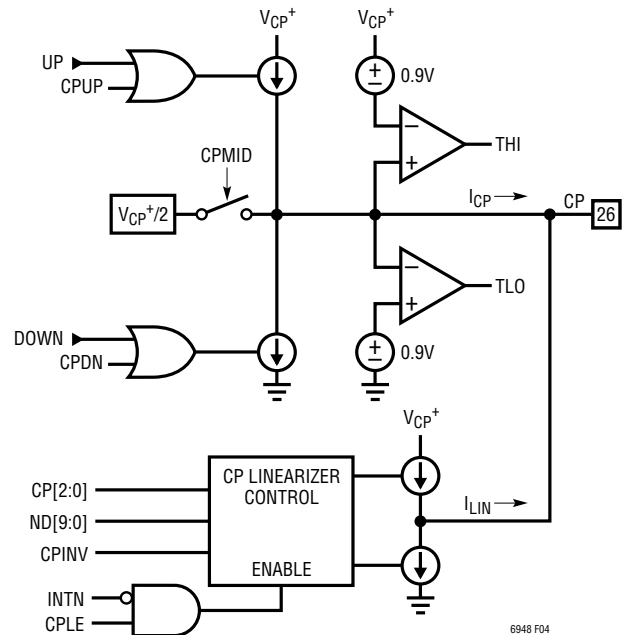

Figure 4. Simplified Charge Pump Schematic
The charge pump, controlled by the PFD, forces sink (DOWN) or source (UP) current pulses onto the CP pin, which should be connected to an appropriate loop filter. See Figure 4 for a simplified schematic of the charge pump.
The CPCHI and CPCLO bits found in register h0D enable the high and low voltage clamps, respectively. When CPCHI is enabled and the CP pin voltage exceeds approximately  $V_{CP}^+ - 0.9V$ , the THI status flag is set, and the charge pump sourcing current is disabled. Alternately, when CPCLO is enabled and the CP pin voltage is less than approximately 0.9V, the TLO status flag is set, and the charge pump sinking current is disabled. See Figure 4 for a simplified schematic.